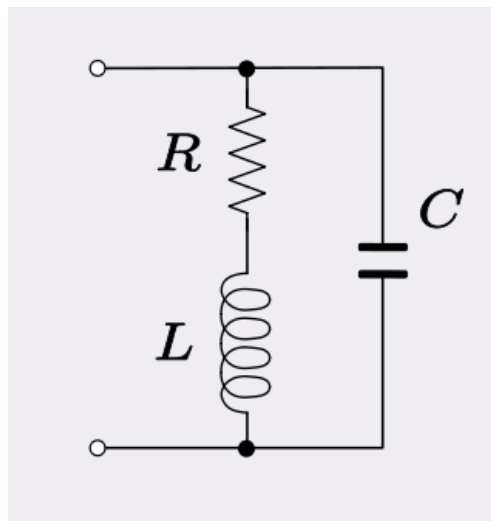

Figure 3
5. Use a series-to-parallel transformation to find the quality factor of the network in Figure 3 at frequency ω .
- d. A resistor soldered in shunt between the transmission line and a shorting pad on the "Filter" board in the package of KiCAD files linked above. This resistor can be effectively modeled by Figure 3, where the resistor represents a resistance of your choice, the capacitor represents parasitic capacitance between the metal of the shunt pad and ground, and the inductor represents the series inductance of a via in the (look up an approximation for inductance in a via).
Required data in lab notebook: $\angle S_{11}(f)$, $|S_{11}(f)|$ and Smith Charts for $S_{11}(f)$ for each termination. Include both the calibrated and uncalibrated data for the short, but otherwise only include the calibrated data. Calculations for de-embedding your DUT. Calculations comparing bandwidth and center frequency of your matching network to simulation results. Calculations comparing the resonant frequency of the structure in Figure 3 against simulation. (You may need to copy some of the answers of your theory questions into the lab notebook to make these final two data requests make sense.)